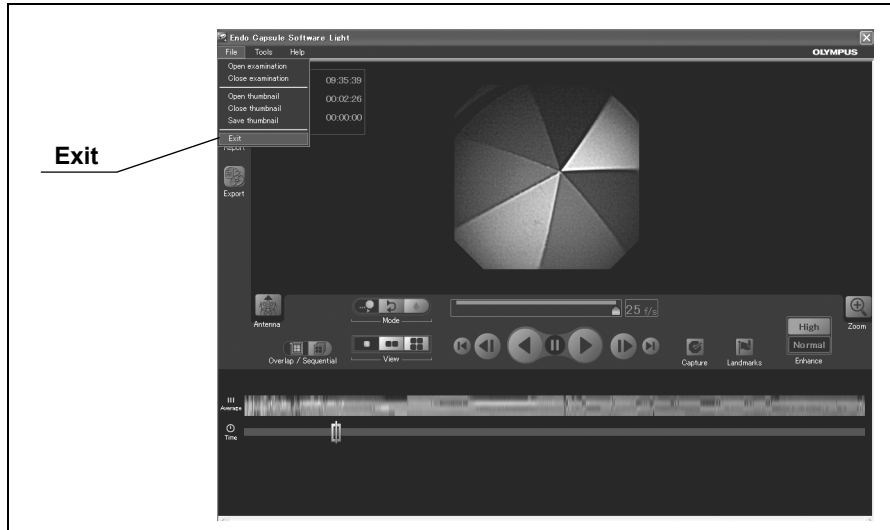

Figure 4.40
1. Select “Exit” from the “File” menu or click the [X] button at the upper right on the main screen (Figure 4.40).